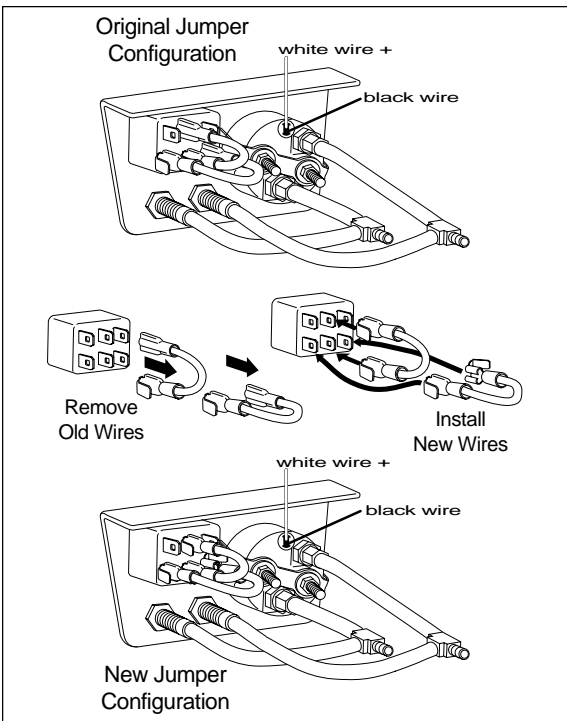

Figure 4
1. Two new jumper wires are provided with this kit to replace the ones on the existing gauge panel. Remove the leads from the compressor and from the power source, noting which terminal on the gauge panel each lead is connected to. Remove the old jumper wires and install the new ones (Figure 4). Connect the leads from the power source and the compressor.